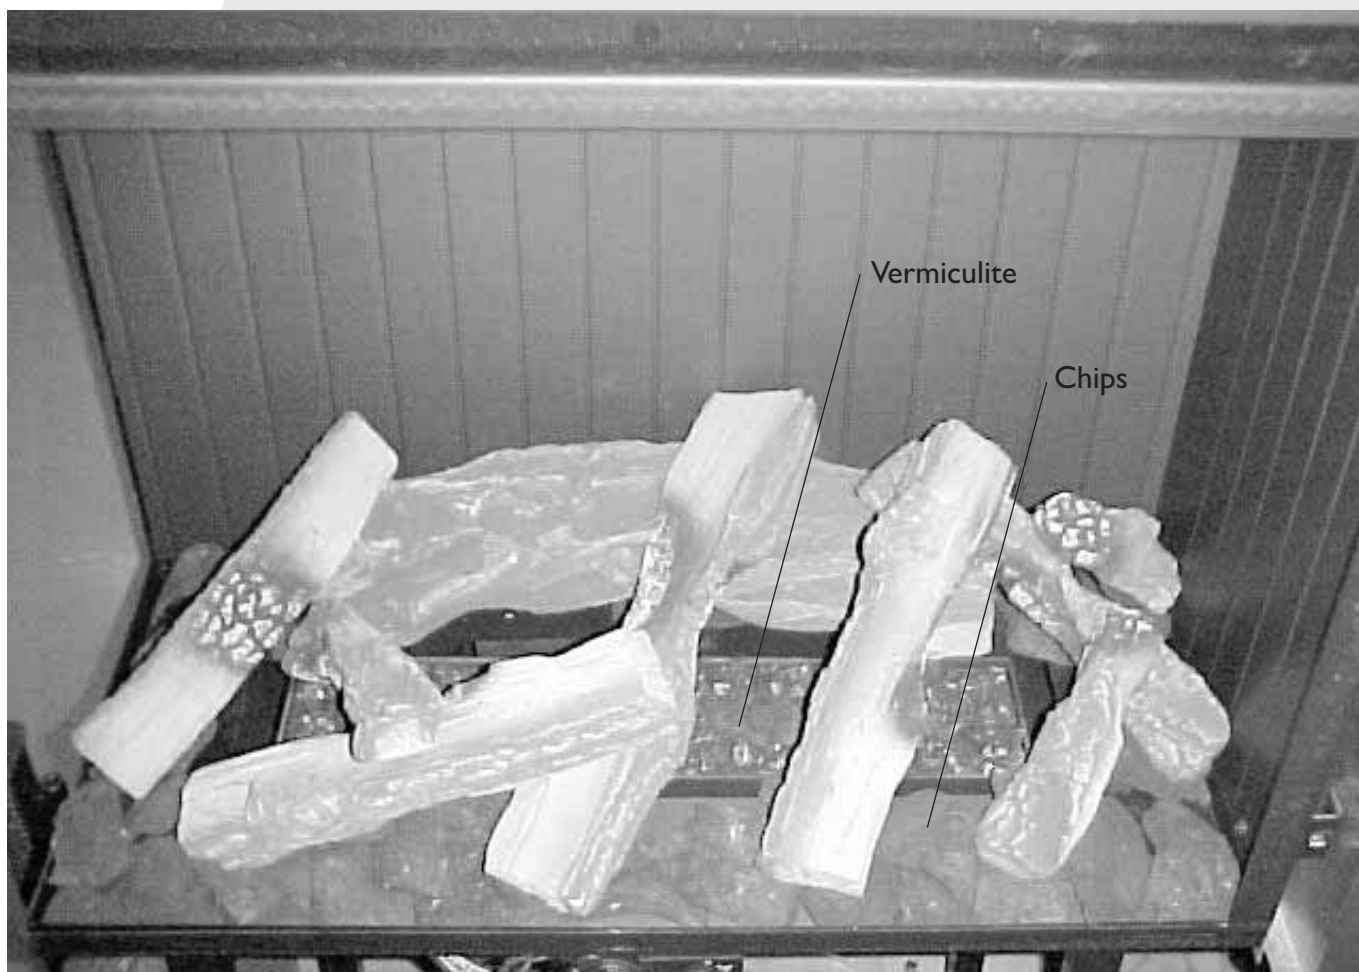

fig. 9
- Now lay the rest of the logs in place as illustrated in fig. 9.